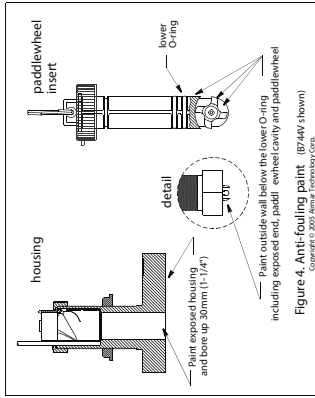

Figure 4. Anti-fouling paint (B744V/VL shown). Copyright © 2008, Airmar Technology Corp.
- B744V/VL** —Paint the following surfaces (Figure 4).